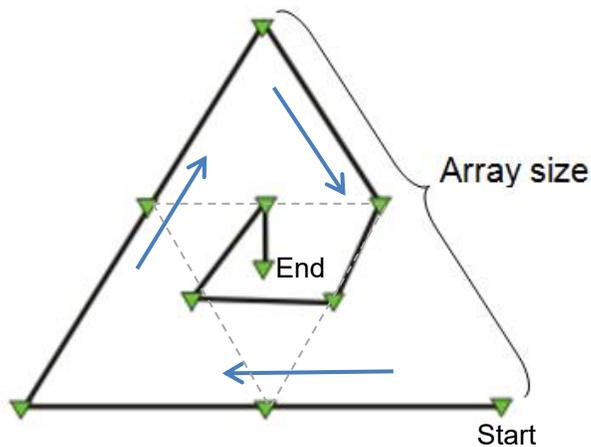

Figure 2.1 Map view of MAM survey equilateral triangle spread configuration with 10 geophones (*Triangle 10*).
1) In microtremor array measurements (MAM), the array size (or maximum separation of receivers) must be larger than the depth of investigation. For example, the array size must be bigger than approximately 30 m in the investigation for an AVS30 investigation. SeisImager allows four set types of array configurations as well as a custom option. Figures 2.1 through 2.5 illustrate the various set configurations. Note that "Array size" in the Figures is the definition used for processing in SeisImager and not the same as the maximum receiver separation. See SeisImager/SW manual for more details. As in Figure 1, the black line represents the order of the Atom's ID and the green inverted triangles represent each Atom.